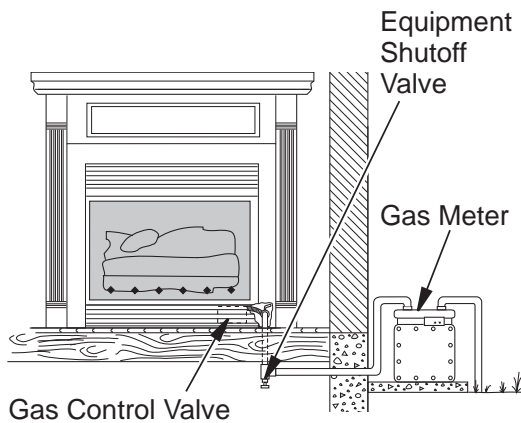

Figure 22 - Checking Gas Joints for Natural Gas
3. Check all joints from gas meter to equipment shutoff valve for natural gas or propane/LP supply to equipment shutoff valve for propane/LP (see **Figures 22 and 23**). Apply noncorrosive leak detection fluid to all joints. Bubbles forming show a leak.
4. Check all joints from equipment shutoff valve to gas control valve (see **Figures 22 or 23**). Apply noncorrosive leak detection fluid to all joints. Bubbles forming show a leak.